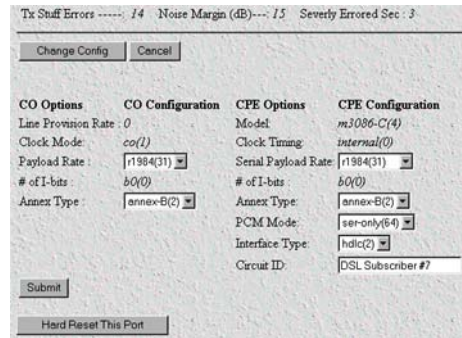

Figure 34. G.SHDSL Port configurable parameters
3. Click the **Change Configuration** button at the bottom of the screen to display the configurable parameter fields (see figure 34).